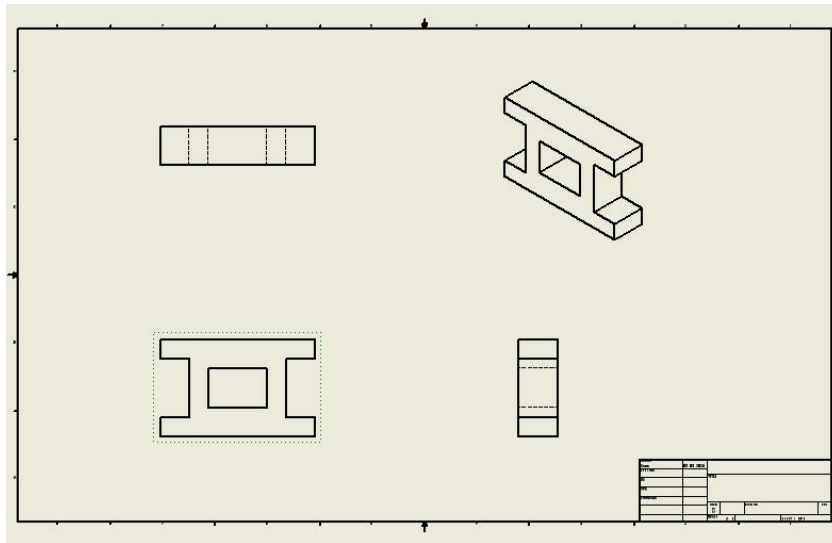

Figure 2-102 Drawing sheet after generating the drawing views
5. Similarly, taking the front view as the parent view, generate the drawing of right-side view and the isometric view, as shown in Figure 2-102.